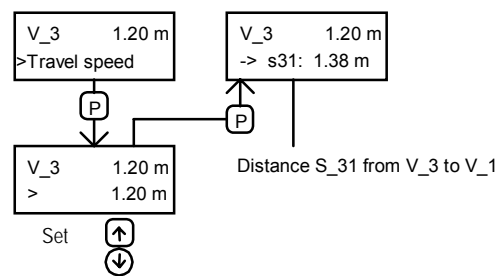

Fig. 5.2 Special functions of the parameters  $V\_1$ ,  $V\_2$ ,  $V\_3$ ,  $R\_NEG1$ ,  $R\_NEG2$  and  $A\_NEG$
- b) The braking distance can also be readout **directly at the controller**. For this, all parameters which affect the decelerating distance have a special function (see Fig. 5.2). If one of these parameters is selected and adjusted, then the calculated decelerating distance from  $V\_3$  to  $V\_1$  is displayed instead of the comment line when you return to this level.
The switch-off points for the travel command "V2" are set as far as possible from the flush position. At fist it has to be checked if required braking distance  $s\_21$  (Fig. 5.2) is less than or equal to the available braking distance. If not, the speed "V2" must be reduced to avoid an over travel during commissioning.